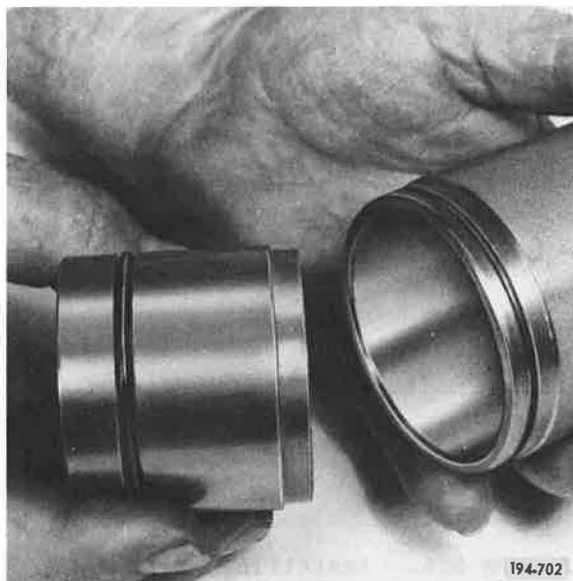

Figure 241. Installing Piston
12. Install Hi-range piston into Hi/Direct shift cylinder. See Figure 241.